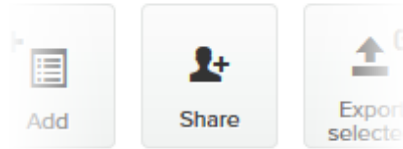

Figure 56. Plug-ins web page (Share button)
4. Click the **Share** button in the upper left-hand corner of the **Plug-ins** web page (Figure 56 (page 112)).